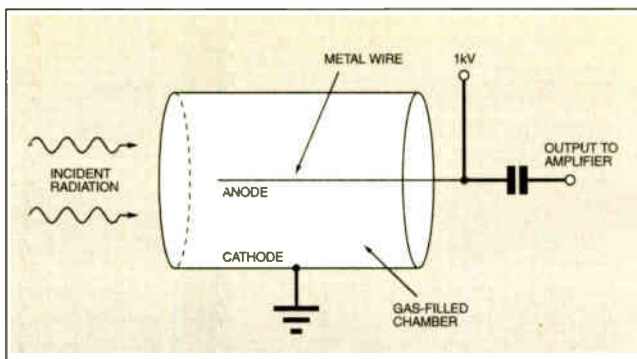

Fig.9.7. Geiger-Muller tube construction.
Perhaps the most well known radiation detector is the Geiger-Muller (GM) tube. A schematic diagram of a typical GM tube is shown in Fig.9.7 consisting of a tube filled with argon through which passes a wire. The outside of the tube is grounded and the wire has about 1kV on it. Any radioactive particles (this includes X-rays and gamma rays) entering the tube ionize the gas, creating ions and electrons. The electrons are attracted to the wire whilst the ions are attracted to the grounded tube. The resulting drop in voltage at the wire is detected